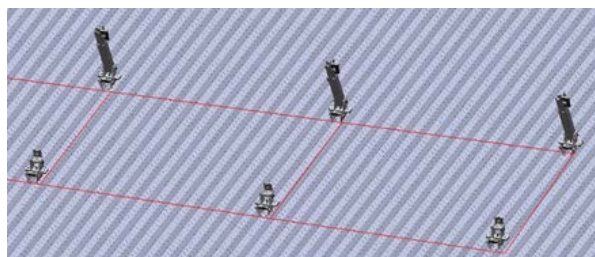

Figure 15
5.2.3 Install the remaining Front and Rear Legs in Figure 15.